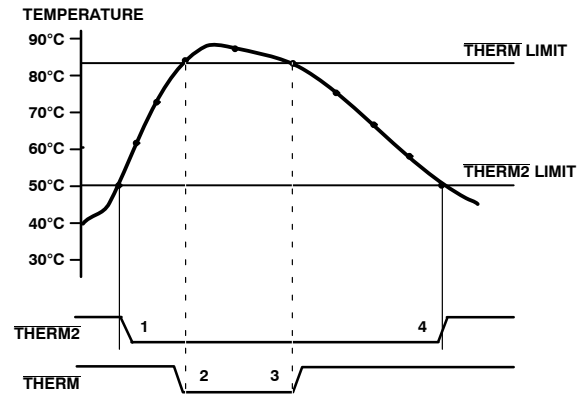

**Figure 19. Operation of the  $\overline{\text{ALERT}}$  and  $\overline{\text{THERM}}$  Interrupts**
Figure 19 shows how the  $\overline{\text{THERM}}$  and  $\overline{\text{ALERT}}$  outputs operate. The  $\overline{\text{ALERT}}$  output can be used as an  $\overline{\text{SMBALERT}}$  to signal to the host via the SMBus that the temperature has risen. If the temperature continues to increase, the  $\overline{\text{THERM}}$  output can be used to turn on a fan to cool the system. This method ensures that there is a fail-safe mechanism to cool the system, without the need for host intervention.
- The  $\overline{\text{THERM}}$  output deasserts (goes high) when the temperature falls to  $\overline{\text{THERM}}$  limit minus hysteresis. In Figure 19, the default hysteresis value of 10°C is shown.